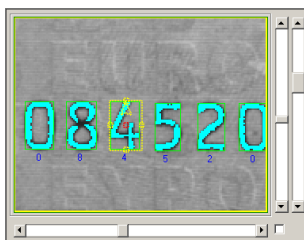

Figure 2.3: Measuring the size of the symbols with the special ROI .
- ② Then, the average size of the symbols must be specified approximately. This can be done by defining the Width and Height via the respective sliders or by setting the values directly. Alternatively, you can specify the size interactively by clicking the button to the left of the sliders. A special ROI appears. Place this ROI around the largest symbol. The ROI can be rotated to make it easy to determine the size of rotated symbols. To finely position this ROI, you can zoom the image and move the displayed part using the scrollbars to the right and below the image (see figure 2.3). To remove the special ROI, click the button again.